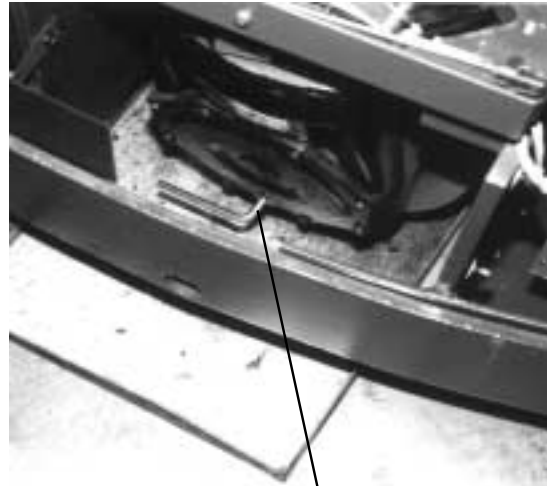

Fig. 1
- Move the gear into the drainage position (see Fig. 1).
- Position an oil catchment vessel under the oil drainage screw (1). It should have a volume of approx. 4l.
- Remove the oil filler screw (2).
- Remove the oil drainage screw (1) and allow the oil to run out.